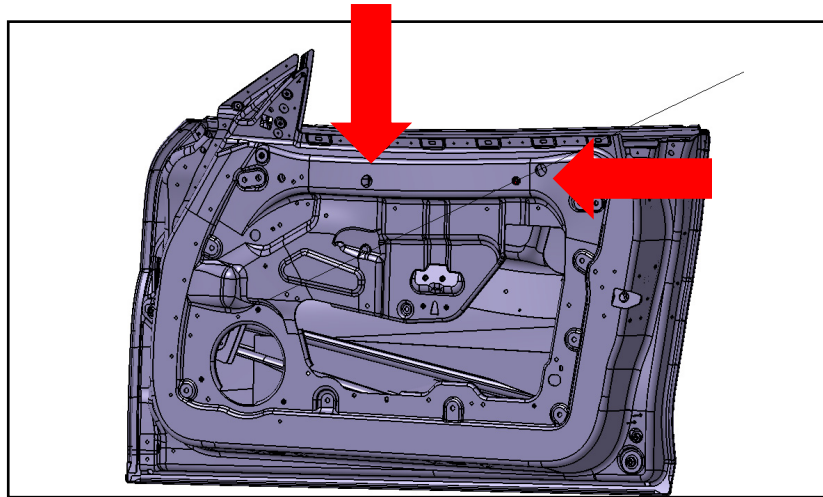

fig 6a
- 5) Check the upper regulator mounts for shims- if required remove shims to check adjustment this may be sufficient (fig 6a). However verify that glass movement speed, up and down in the channel is not affected, as the glass may now contact the seal and create some drag. You may find one (1) or (2) shims in each position, trial should first be done removing 1 shim and checking glass to B pillar flushness and for satisfactory glass speed, if this is still unsatisfactory remove the second shim and recheck.